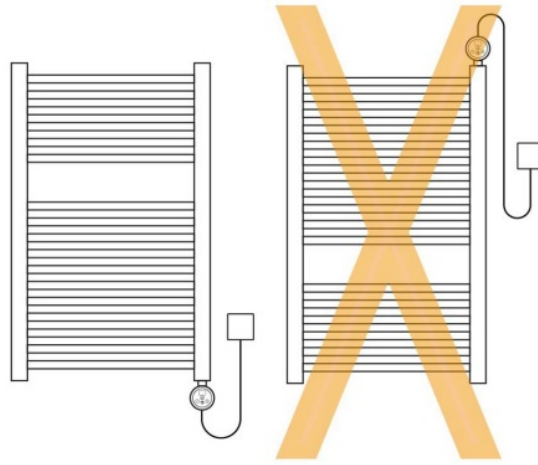

Figure 2 | Correct and incorrect installation positions of the element
2. Identify the inlet where the element will be fitted in the towel rail. The element is fitted vertically, in the bottom left or right vertical strut. Never fit the element at the top of a towel rail or in horizontal towel rails (Figure 2).